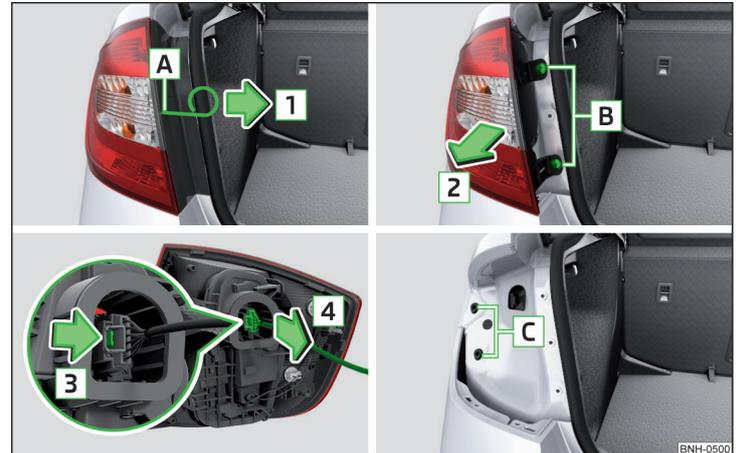
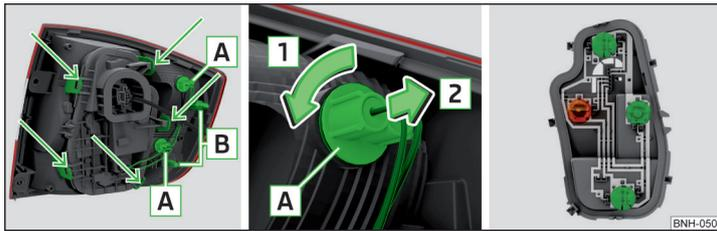

Fig. 160 Remove light / pull out connector
Fig. 161 Outer part of the lamp/inner part of the lamp
- › Insert the clamps for removing the full wheel covers » page 155, *Vehicle tool kit* into opening **A** » Fig. 160.
- › Insert the lamp with the pin **B** » Fig. 161 on page 176 into the recesses **C** » Fig. 160 in the body.
- › Rotate the lamp socket **A** » Fig. 161 in direction of arrow **1** and remove in direction of arrow **2** from the lamp housing.
- › Unlock the bulb holder using the marked area with arrows » Fig. 161 and remove the bulb holder from the light.